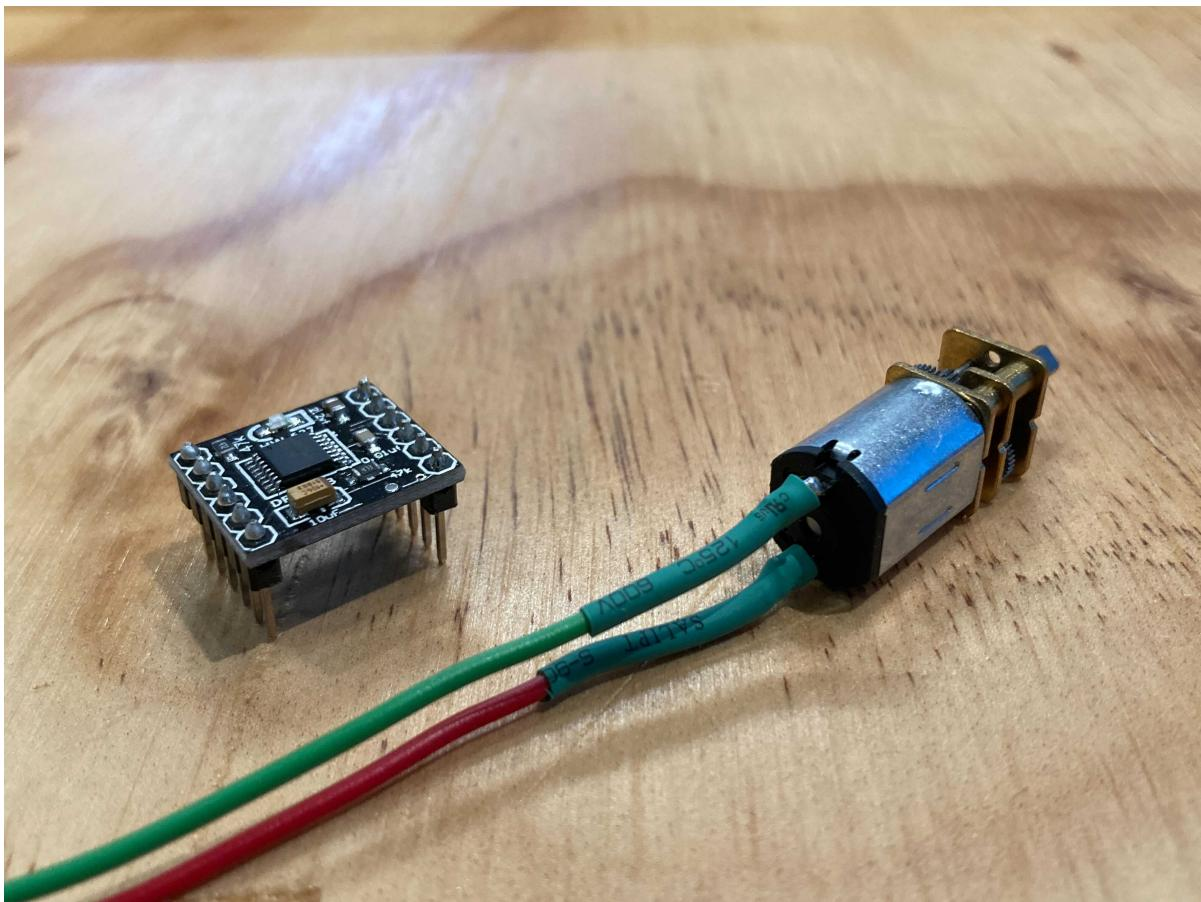

Figure 2: We will provide each group one gearmotor and one DRV8833 motor driver.
1. Only one ESP32, one motor driver, and one gear motor are allowed in your robot design. Figure 2 shows the motor driver and the gear motor. Alternatively, you are allowed to substitute the gear motor with the servo motor that is provided in your kit. If you decide to use the servo motor, you are not allowed to use the gear motor, hence no motor driver is needed. You are allowed to use other non-actuation components in your design, e.g. IMU. If you are not sure whether certain parts can be used for your project, consult your instructor and TA.